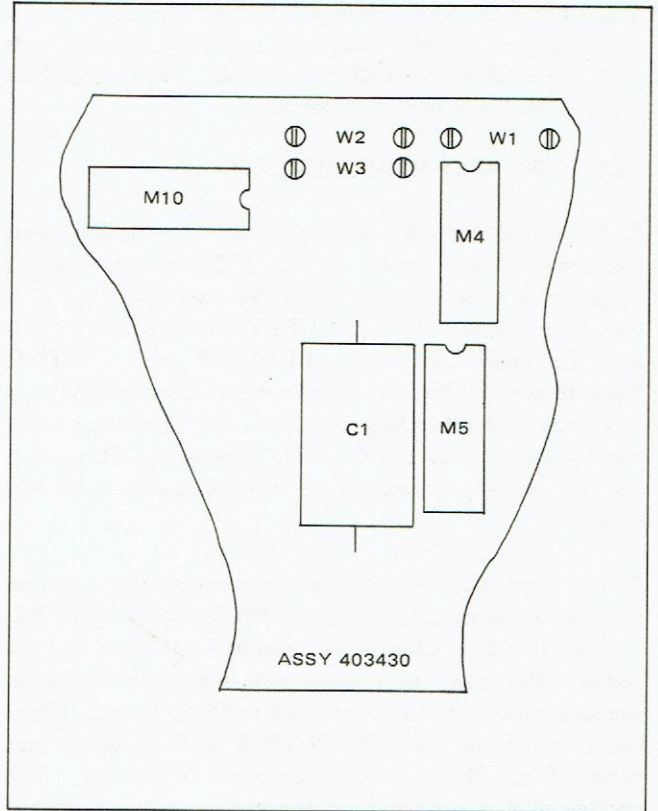

Figure 2.15 - Jumper Location
2.78 When an accessory is added or removed from the instrument, a jumper corresponding to the accessory is removed or added to allow proper operation of the NO circuitry. The three jumpers (W1, W2, and W3) are located on the display board, shown partially in figure 2.15. When an accessory is added, the corresponding jumper is removed; conversely, when an accessory is removed, the jumper is added as shown in table 2.7.